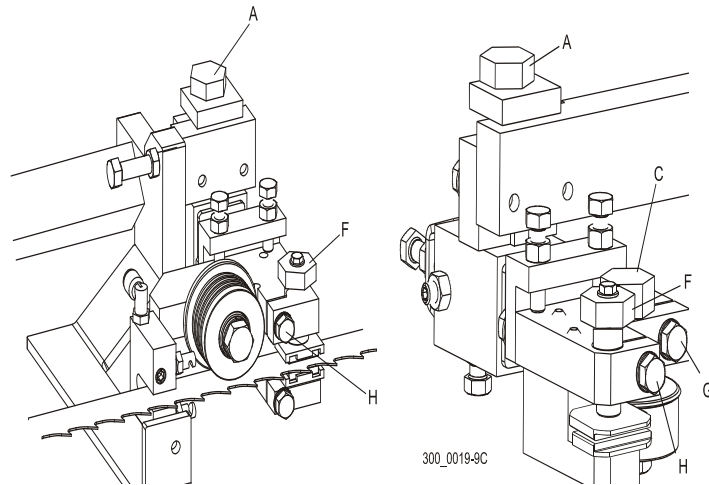

FIG. 3-34
See Figure 3-34. Optional Block Guides: Adjust the blade guides so they do not touch the blade in any way. Loosen clamp bolt (H) and turn the top guide block bolt (F) counterclockwise to raise the top guide block off the blade. Turn blade guide assembly bolt (A) counterclockwise to move the bottom guide block down off the blade. Check that the blade guide roller does not touch the blade. Loosen clamp bolt (G) and turn roller bolt